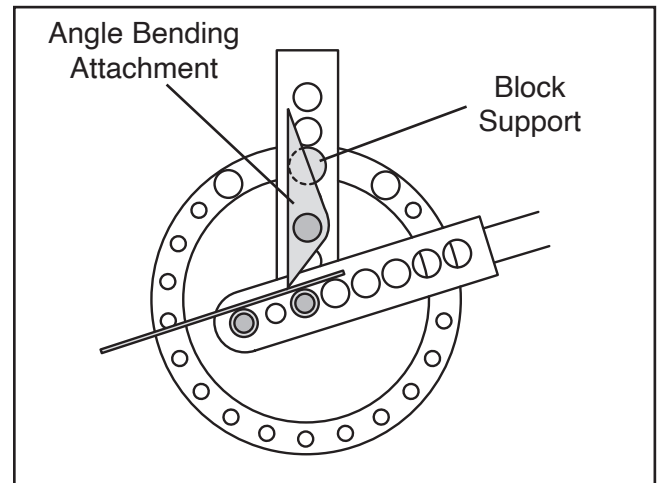

Figure 6. Basic angle bending setup.
1. Mount the block support and angle bending attachment onto the bending bracket as shown in **Figure 6**.
3. Based on the position of the angle bending attachment and workpiece thickness, select two dies that will brace the workpiece properly against the angle bending attachment, and install them as shown in **Figure 6**. For most bending tasks, the 1½" dies are appropriate.
Note: The center pin and die must be mounted at least through the third handle hole, as shown in **Figure 6**, for any bending procedure to be successful. If the center pin is placed in the first or second holes, you will not be able to get enough leverage to properly bend the workpiece.